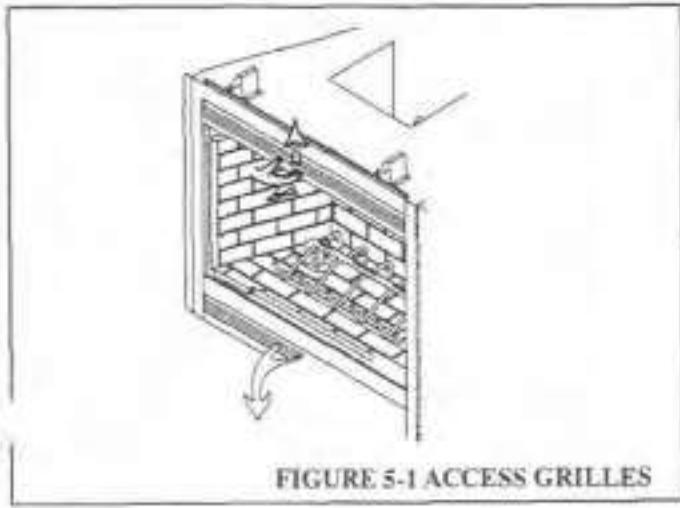

FIGURE 5-1 ACCESS GRILLES
1. Remove the upper grille by lifting it up, then swinging the bottom out towards you. Refer to Figure 5-1.